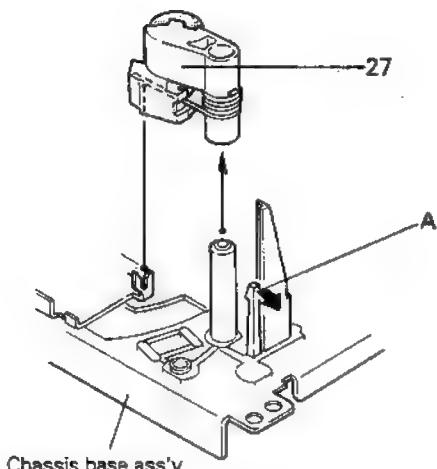
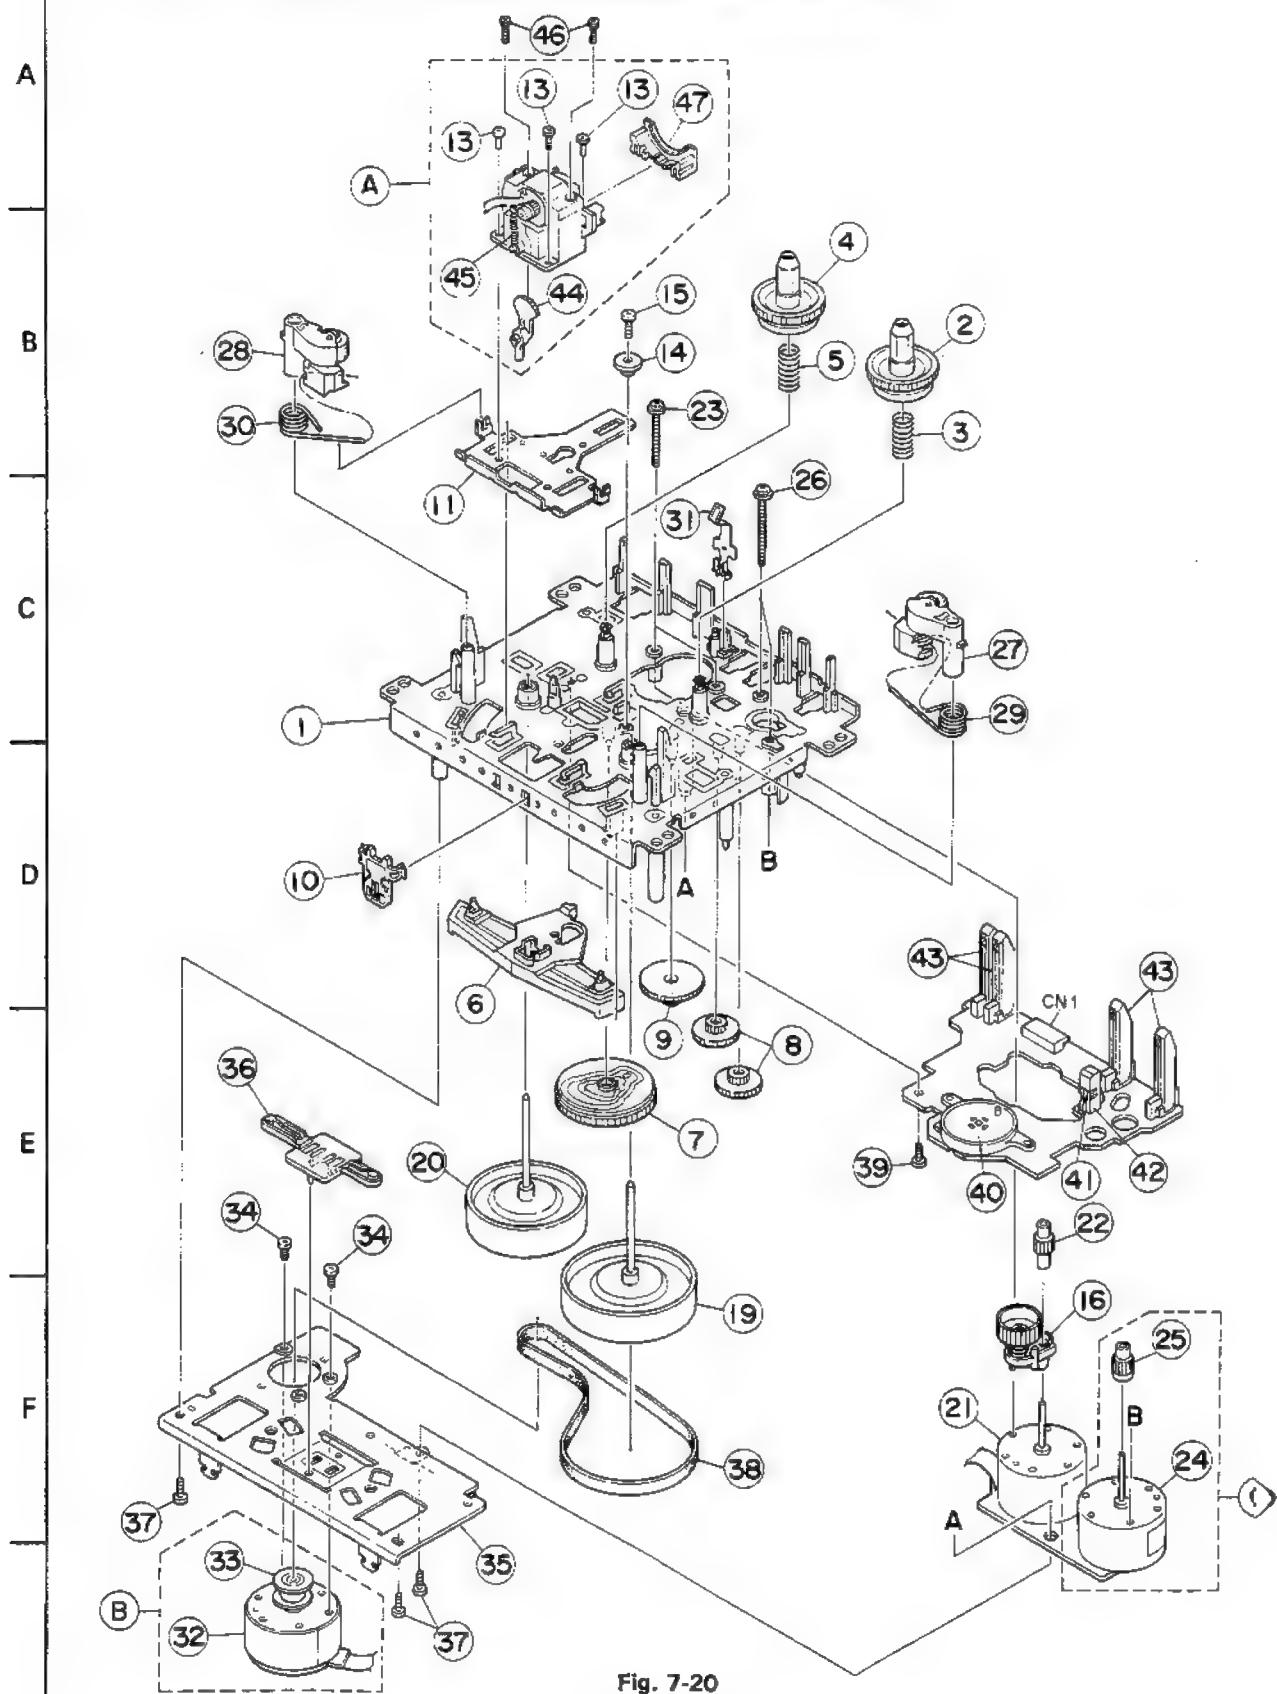

Fig. 7-22
Fig. 7-20
**■ Head mount assembly (A) (Fig. 7-20, 7-21)**
**Note:** After replacing the head mount assembly, make sure to adjust the azimuth screw (46).
**■ Pinch roller assembly (Fig. 7-22)**
1. Expand the pawl (A) retaining the pinch roller assembly (27) on the right side in the direction of the arrow while pulling out the pinch roller assembly upwards.
2. In the same manner as above, expand the pawl retaining the pinch roller assembly (28) on the left side to remove the left pinch roller assembly. (Fig. 7-20, too)